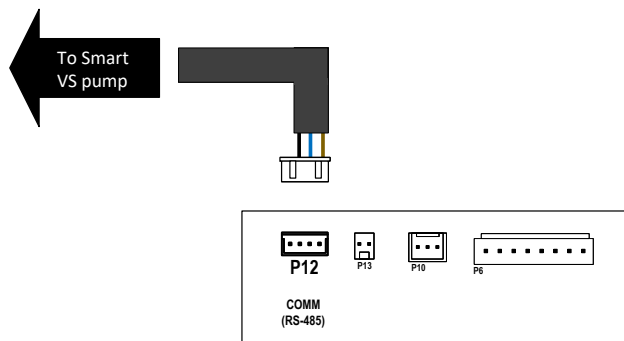

Figure 139. Wiring 24VAC Relays
3. Then connect the other end of the RS-485 Modbus harness to the terminal labeled as "COM" [P12] on the control board. See **Figure 139**.